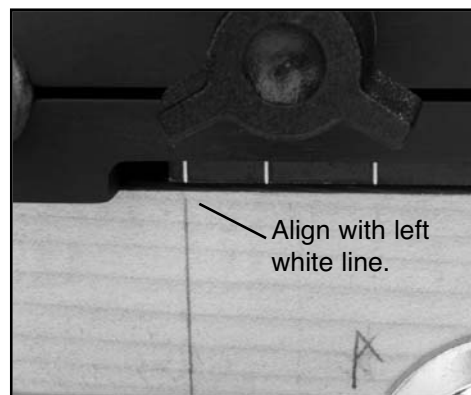

Fig. 5
4. Remove scrap board and clamp Part "A" in jig; align pencil mark with left white line on drill block. (Fig. 5)